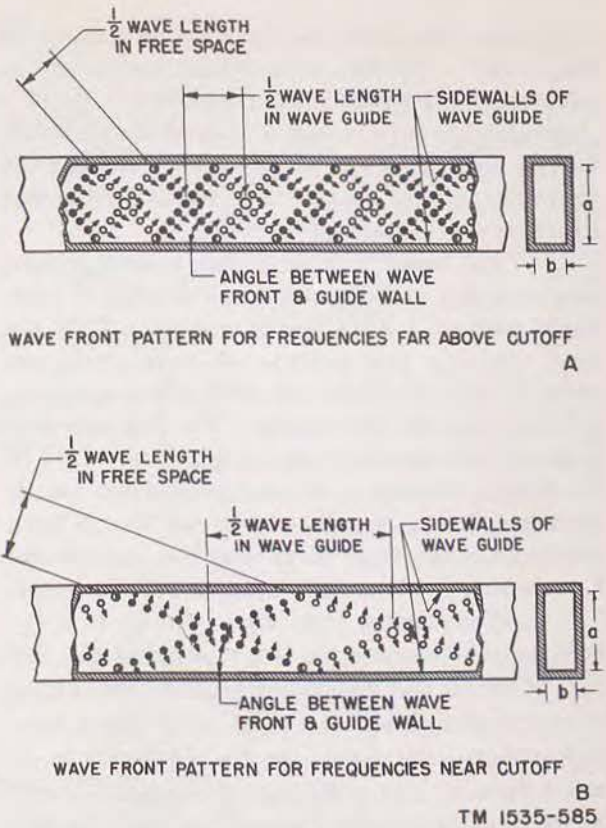

Figure 26. Change in reflection angle with change of frequency.
*i. Cutoff Frequency.* A wave guide acts like a high pass filter: it does not pass frequencies below a certain cutoff frequency. The cutoff frequency has a wave length in free space twice the width (a) of the wave guide. In order that a wave guide may transmit energy of a given wave length, its width must be more than one-half the wave length of the energy to be transmitted. The wave fronts in a wave guide when the frequency is well above cutoff is shown in A, figure 26. Note that the width of the wave guide is considerably larger than one-half wave length in free space, and that the angle that the wave fronts make with the wave guide axis is large. In B, figure 26, the same width of the wave guide is only slightly more than one-half wave length when the frequency is near cutoff. The angle that the wave front makes with the axis of the wave guide is small, and therefore the angle of reflection also is small. The wave length within the wave guide then becomes large, and the wave fronts travel down the wave guide nearly parallel to the side walls. Most of the energy in the wave front is absorbed in the side walls and, at the cutoff frequency, all the energy is absorbed.